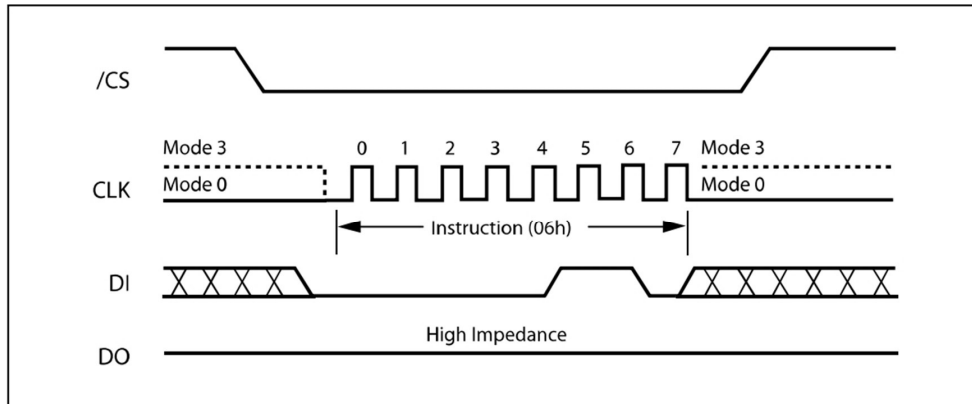

Figure 4. Write Enable Instruction Sequence Diagram
The Write Enable instruction (Figure 4) sets the Write Enable Latch (WEL) bit in the Status Register to a 1. The WEL bit must be set prior to every Page Program, Sector Erase, Block Erase, Chip Erase and Write Status Register instruction. The Write Enable instruction is entered by driving /CS low, shifting the instruction code "06h" into the Data Input (DI) pin on the rising edge of CLK, and then driving /CS high.